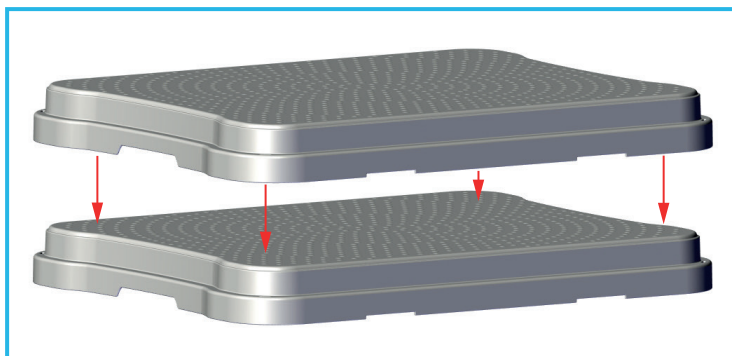

**Figure 1: Insert Support Pillars**
2. Push the four support pillars into position (see Figure 1).
2. Push the 8 x support pillars into position, four on each step section (see Figure 1).